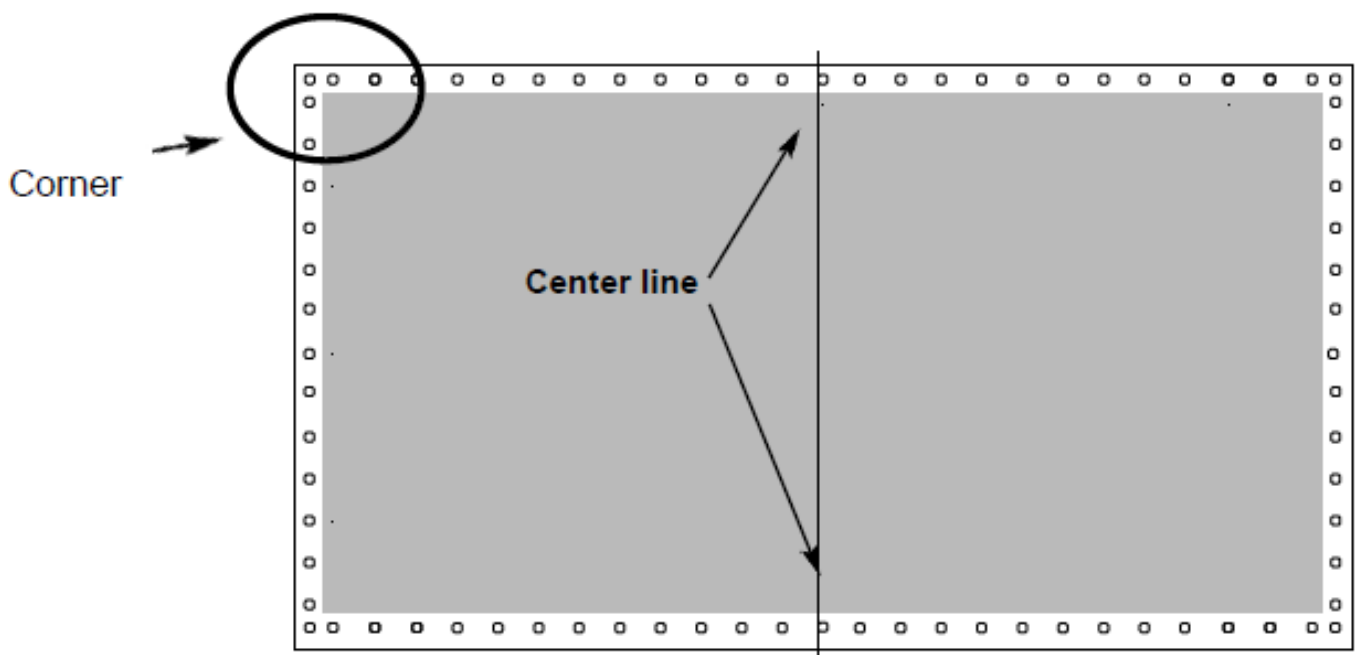

Figure 11. Screen, Audience Viewing Side
- Start at the top left corner, using the techniques described below (see Figure 11).
- Continue attaching S-hooks to grommets along the top from the top left to the center top. The screen centerline is marked with a red grommet at the frame center (see Figures 11 and 12).